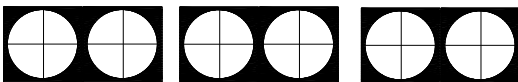

Fig. 2
- 3) External terminals are shown in Fig. 2.